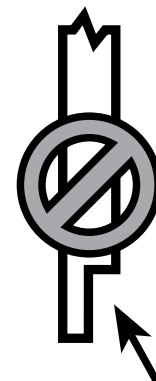

fig. 4
Step 2: Install railing posts prior to installing deck boards. Cedar or pressure-treated pine 4x4 railing posts or a post mount provides the structural strength for the railing. The length of each post is determined by the total of the joist depth (typically 7-1/4") + decking thickness (1") + railing height (36") + spacing for post cap (1-1/4") = 45-1/2". Important: Do not notch the 4x4 railing posts. Notching will reduce the strength of the post and could result in railing collapse or failure (fig. 4).
Step 2: Install stair railing posts prior to installing stair treads. Cedar or pressure-treated pine 4x4 railing posts or a post mount provides the structural strength for the stair railing. The length of each post is determined by the total of the stringer width + tread thickness + stair railing height + spacing for post cap. *Important: Do not notch the 4x4 railing posts. Notching will reduce the strength of the post and could result in railing collapse or failure (fig. 4).*